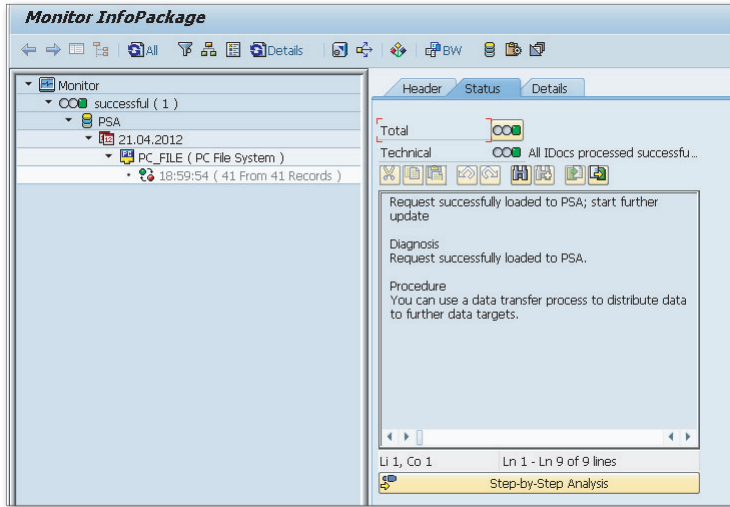

Figure 4.12 Monitor Status of InfoPackage
- The MONITOR ADMINISTRATOR WORKBENCH window, which is a pane in the MONITOR INFOPACKAGE screen in Figure 4.12, shows the status of the data extracted from the flat file DataSource into the PSA. If the data load is successful, the status of the load is displayed with a green traffic light.